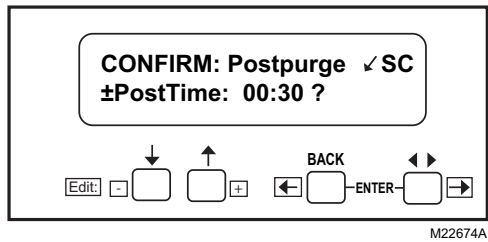

Fig. 20. Confirm Postpurge time.
22. Press the down arrow to confirm the correct postpurge time. "Getting Data" will be displayed until the screen in Fig. 20 appears.